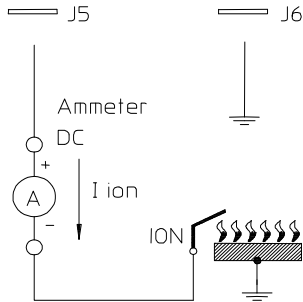

Fig. 5
- the level of the flame signal is sufficient, see Fig. 5 for the measuring test;